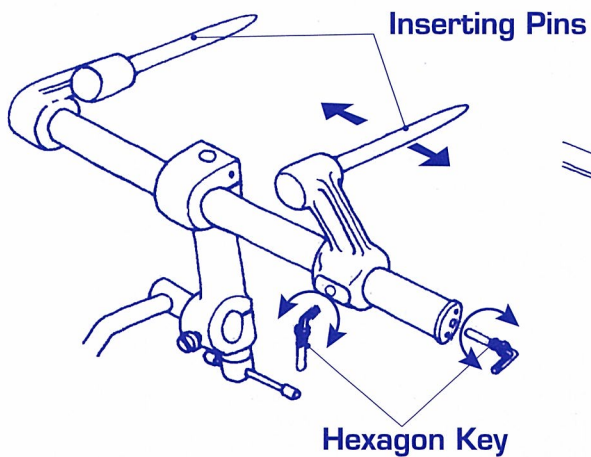

Fig.2
1. Remove the hexagon key attached to the end of the table attachment by turning it counterclockwise. By using the hexagon key, loosen the set screw of the inserting pin on the right side to allow free sliding on the bar. Align the inserting pins with the bores on the table by adjusting the right pin. (the left pin is fixed). (Fig. 2) ⚠ Do not misplace the key.